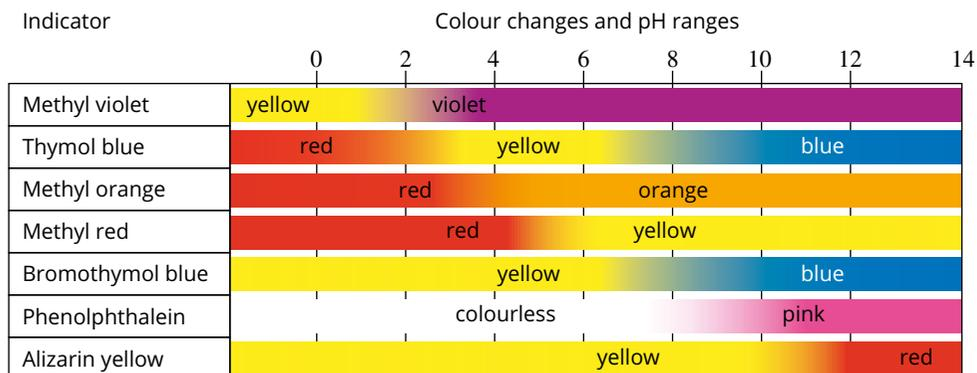

FIGURE 16.2.3 Common indicators and their pH ranges
One of the characteristic properties of acids and bases is their ability to change the colour of certain plant extracts. Litmus is a purple dye obtained from lichen. In the presence of acids, litmus turns red. The colouring of rose petals, blackberries and red cabbage is also altered by acids and bases. Such plant extracts are called indicators. (Common indicators and their pH ranges can be seen in Figure 16.2.3.)
- 1 Refer to Figure 16.2.3 on page 510 to determine the colour of phenolphthalein indicator in a solution of pH 10.